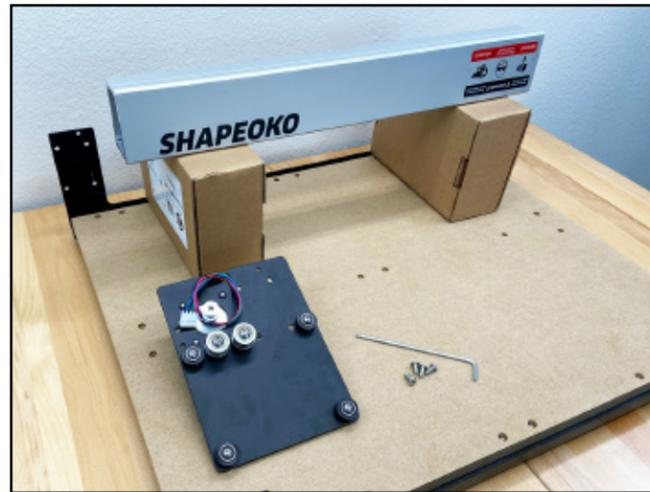

Figure 3-15
1. Place the X-rail, with the decals facing the front, across the top of the two empty Y-Axis Left and Right Assembly boxes, as shown in **Figure 3-15**.
1. Identify the Y1-carriage. See **Figure 3-15**.